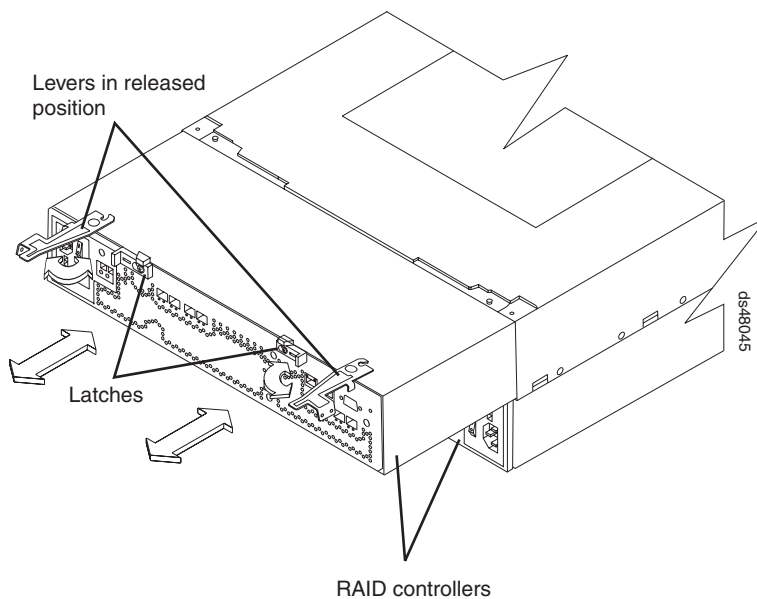

Figure 87. Removing a controller from the DS4800
10. Release the controller levers and remove the failed controller. Figure 87 shows the controller sliding from the storage subsystem chassis.